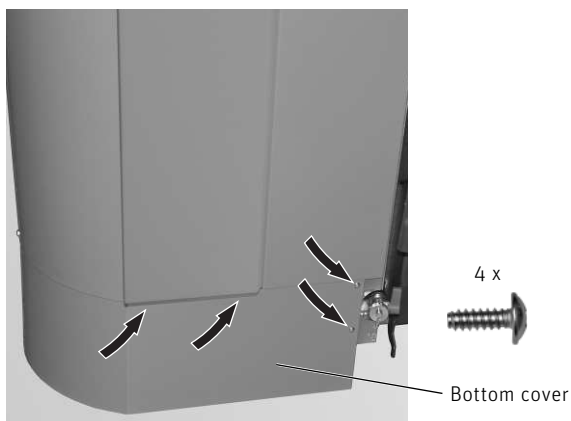

Fig. 103 Install the bottom cover for the integral fuel hopper (BioWIN 2 Touch Klassik/Premium only)
- ▶ Screw the bottom cover for the bottom integral fuel hopper into position with 4 self-tapping screws – Fig. 103.